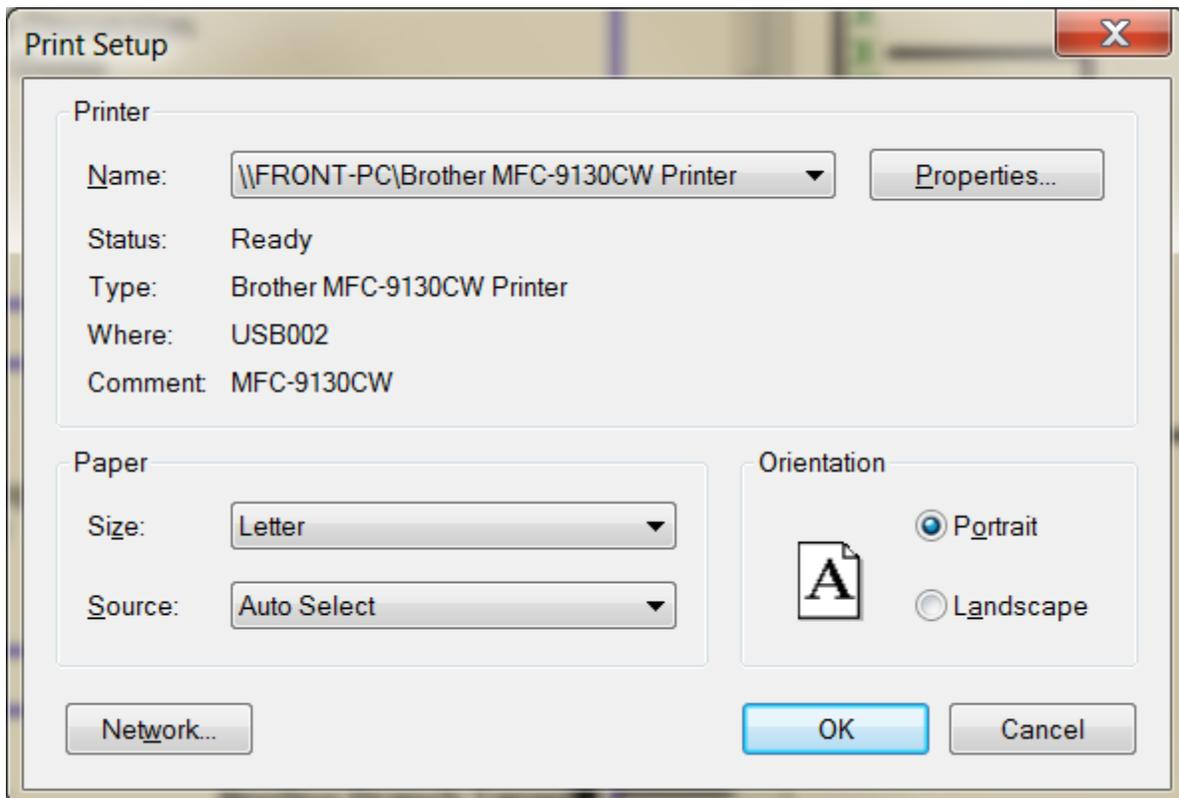

Figure 5 - Default Printer Configuration Setup Dialog.
7. Print Setup... – This option opens a dialog in which the default printer configuration is set (**Figure 5**). Vision offers Printing as an export option in each Task. Print configuration applies to the print export function of all Tasks.